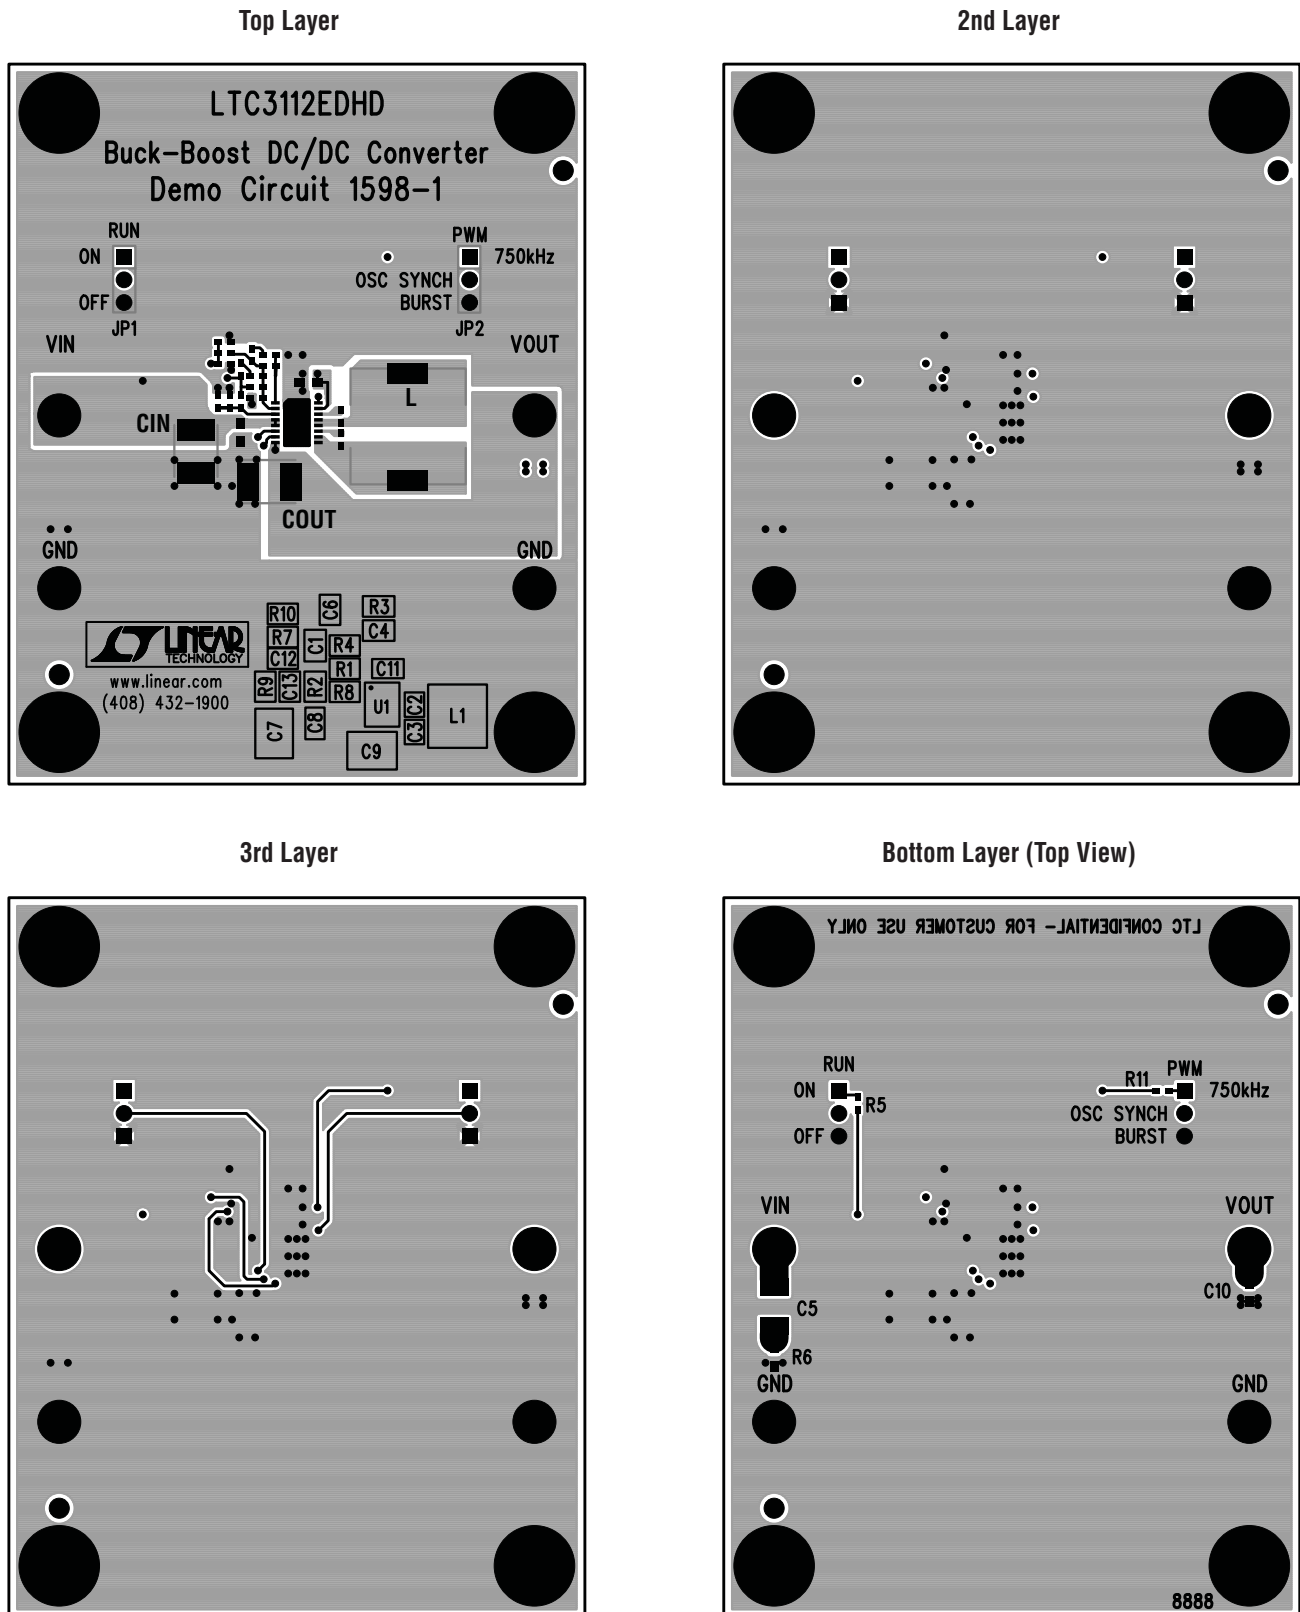

Figure 3. Example PCB Layout
The temperature rise curves given in the Typical Performance Characteristics section can be used as a general guide to predict junction temperature rise from ambient. These curves were generated by mounting the LTC3112 to the 4-layer FR4 Demo Board printed circuit board layout shown in Figure 3. The curves were taken with the board at room temperature, elevated ambient temperatures will result in greater thermal rise rates due to increased initial $R_{DS(ON)}$ of the N-Channel MOSFETs. The die temperature of the LTC3112 should be kept below the maximum junction rating of 125°C.
The LTC3112 switches large currents at high frequencies. Special attention should be paid to the PCB layout to ensure a stable, noise-free and efficient application circuit. Figure 3 presents a representative 4-layer PCB layout to outline some of the primary considerations. A few key guidelines are outlined below:
plane should be placed directly under the V_{IN} , V_{OUT} , SW1 and SW2 traces to provide a mirror plane to minimize noise loops from high dI/dt and dV/dt edges (see Figure 3, 2nd layer).
2. All circulating high current paths should be kept as short as possible. Capacitor ground connections should via down to the ground plane in the shortest route possible. The bypass capacitors on V_{IN} should be placed as close to the IC as possible and should have the shortest possible paths to ground (see Figure 3, top layer).
8. Crossover connections should be made on inner copper layers if available. If it is necessary to place these on the ground plane, make the trace on the ground plane as short as possible to minimize the disruption to the ground plane (see Figure 3, 3rd layer).